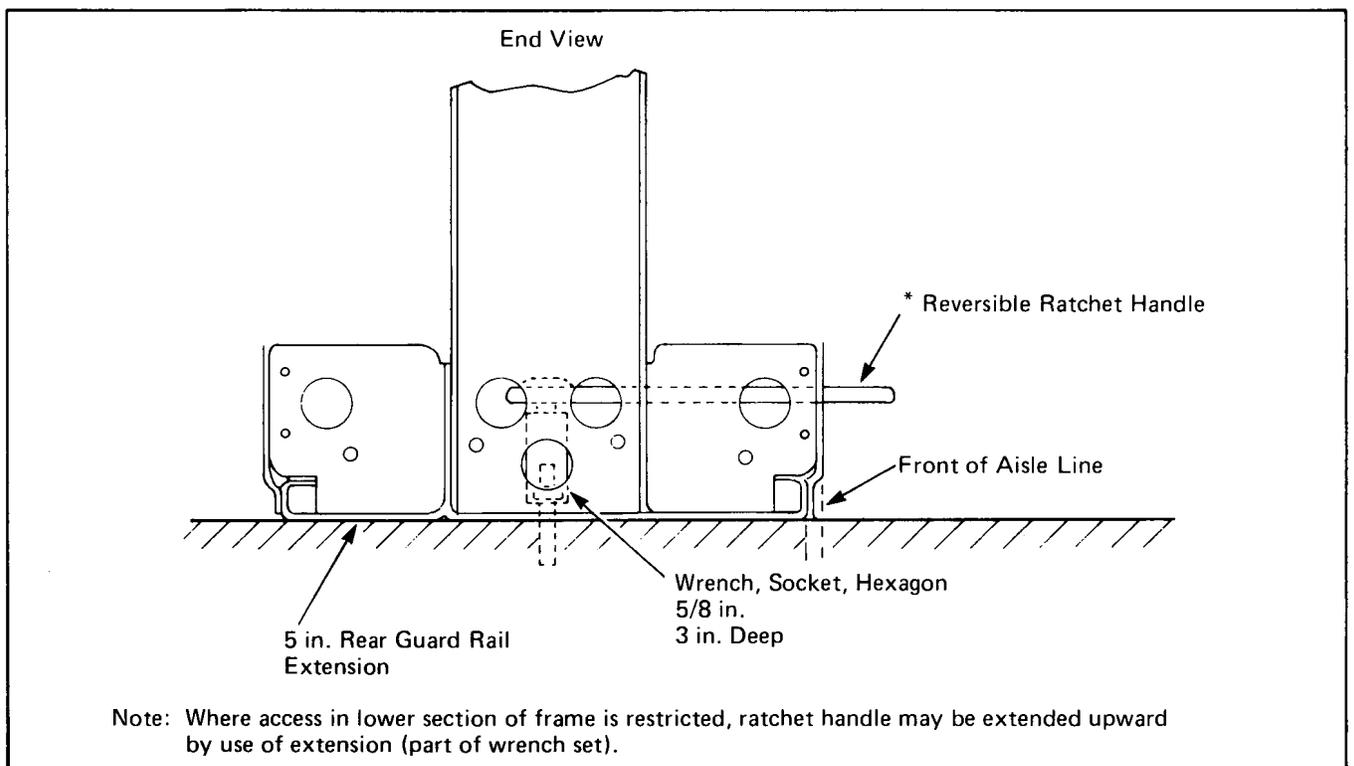

Fig. 7 – Securing Bay to Floor
- (1) Carefully slide the bay into position in the equipment line-up. At least two men are needed for this operation.
- (2) Support the bay temporarily with one or two supporting straps tied around the top channel of the bay and the auxiliary framing channels above the bay.
- (3) Insert the floor anchor bolts, with anchor plates, to secure the bay assembly to the floor anchors (Fig. 7). Do not tighten the bolts at this stage.
- (4) With a spirit level, check the leveling of the bay on the base, top channel, and both uprights in turn. Where necessary, use 1/16-, or 1/8-inch shims, or both, under either or both sides of the bay to assure correct alignment and leveling.
- (5) Tighten the floor anchor bolts with a socket wrench and extension handle (Fig. 7).